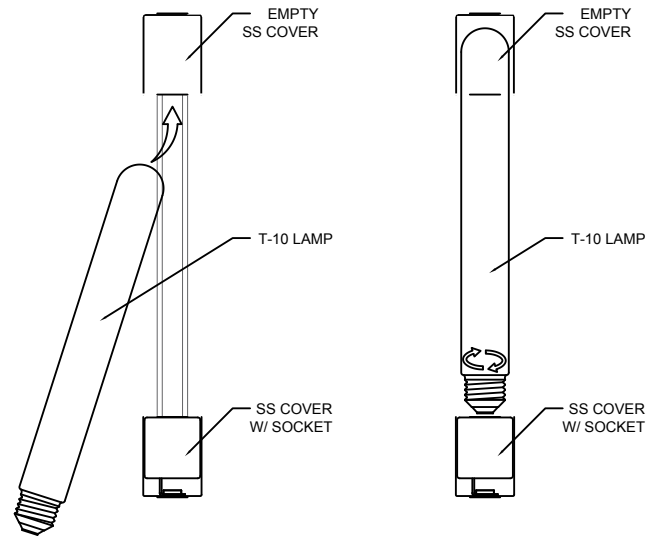

FIGURE-05
9. Install the lamps. (Type T-10 lamp) Incline the lamp and slide the tip to the empty ss cover until the position gets vertical then fasten it to the socket on the other ss cover. (See Figure-05)